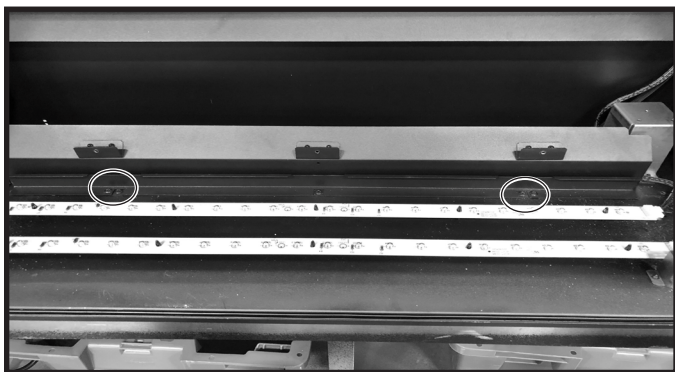

Figure 7 Bracket Removal
5. Remove Flame Screen. Refer to Flame Screen Replacement section for details. Remove metal flame panel with eleven (11) screws.
6. Remove the two metal brackets in front of rear LED strip. Remove three (3) screws to remove metal parts. See Figure 7.
12. Install metal brackets by attaching with three (3) screws. See Figure 7. Install metal flame panel with eleven (11) screws.